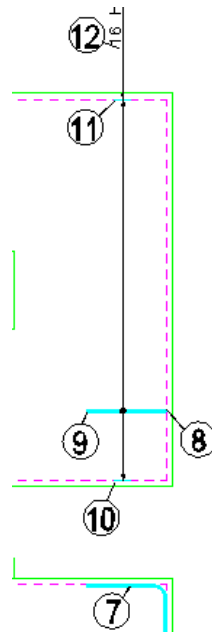

Figure 3.6.15:2 Second Single Indicator Range Placing Order
10. Repeat the **CADS RC** → **Draw Range** → **Add View** or command and add the range of the right hand Shape Code 21 (shown by point 7) to the Plan View, as shown in figure 3.6.15:2 below